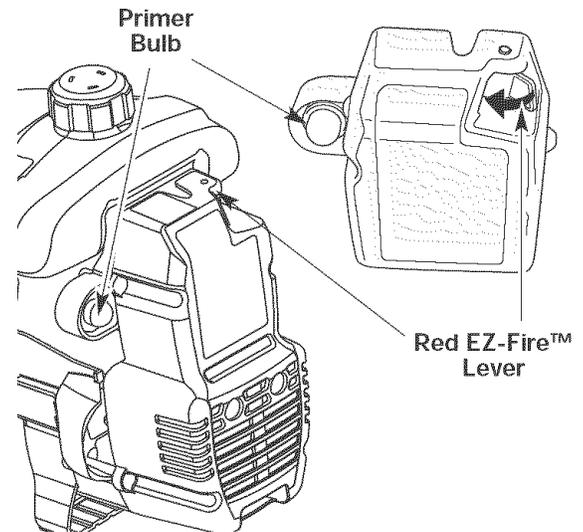

Fig. 4
3. Fully press and release the primer bulb 10 times, slowly. Some amount of **fuel should be visible in the primer bulb** and fuel lines (Fig. 4). If you can't see fuel in the bulb, press and release the bulb as many times as it takes before you can see fuel in it.
4. **Push the red EZ-Fire™ Lever towards the primer bulb** until it clicks and locks into place (Fig. 4).